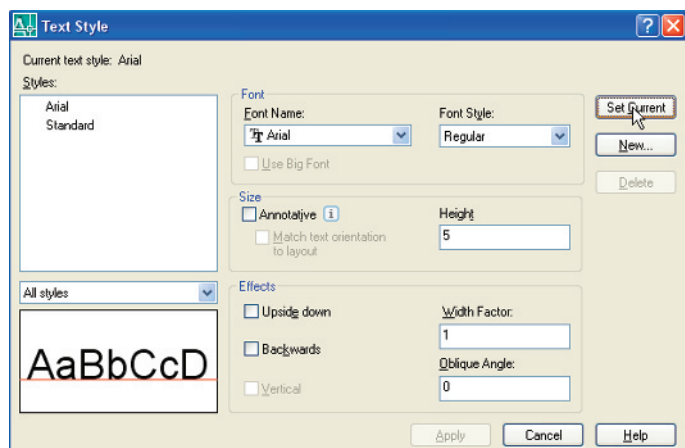

Fig. 4.8 The **Text Style** dialog
2. The **Text style** dialog appears (Fig. 4.8). In the dialog, *enter 5* in the **Height** field. Then *left-click* on **Arial** in the **Font name** popup list. **Arial** font letters appear in the **Preview** area of the dialog.